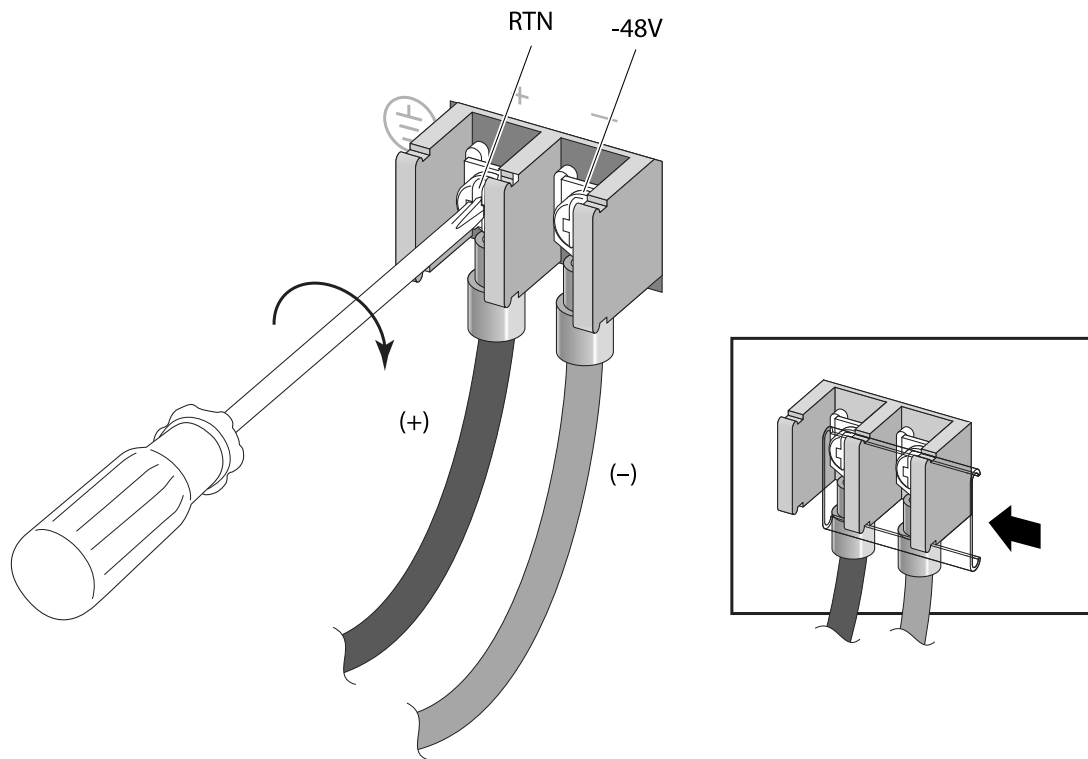

Figure 249: Connecting the DC Power Cables (Part 2)
- d Tighten both screws on the terminal block to 11 inch-pounds (1.25 Newton-meters) (Figure 249: Connecting the DC Power Cables \(Part 2\) on page 280).